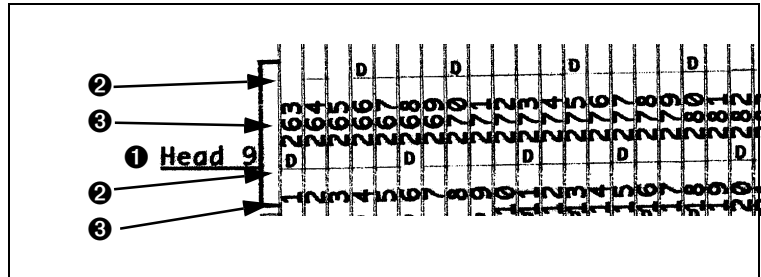

Fig. 4-21. Sample jet mapping pattern
- ① Head number
- ② Test pattern and codes
- ③ Jet number
- ◆ If a line segment is missing or broken, the jet listed in the same column is out. In Fig. 4-21, jets 263 and 265 are out.